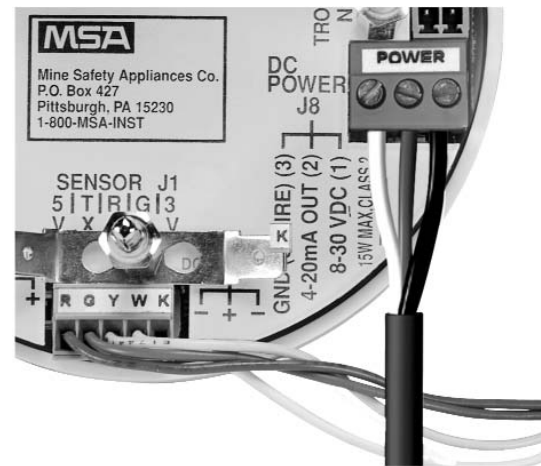

Figure 2
3. Connect 8 to 30 VDC power lead to J8-1 (FIGURE 2).